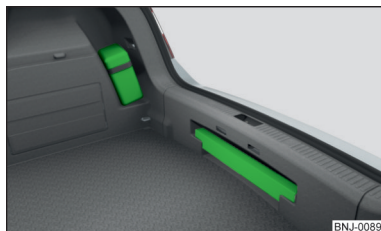
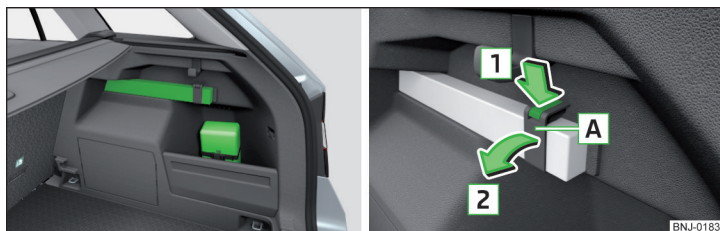

Fig. 176
Fig. 177 Placing the first aid kit and the warning triangle - variant 2 / release the warning triangle
The first-aid box can be attached by a strap to the right-hand side of the boot » Fig. 176 or » Fig. 177.
The warning triangle can be stored in the recess under the loading edge » Fig. 176.
The first-aid box can be attached to the right-hand side of the boot using a strap » Fig. 177.
- To **release**, press the clasp on the tape in the direction of arrow **1** fold open the belt **A** in the direction of arrow **2** » Fig. 177.